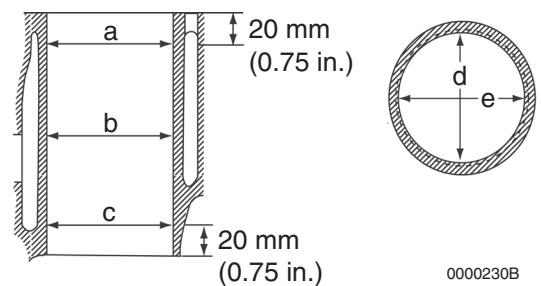

Figure 6-63
- Take measurements at three places (**Figure 6-63**) (a, b, and c), and in two directions (d and e) in each cylinder. Collect and record the measurements. See *Cylinder Block* on page 6-13 for specifications.